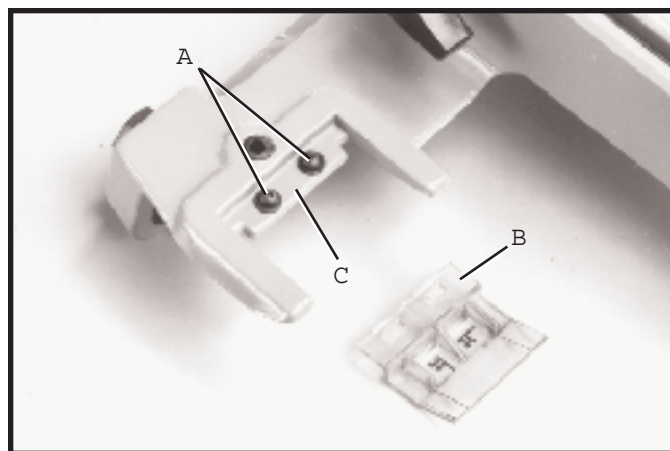

Fig. 41
1. Remove two screws and flat washers (A) Fig. 41, and assemble the cursor (B) to the Unifence body (C). Replace the two screws and flat washers (A).